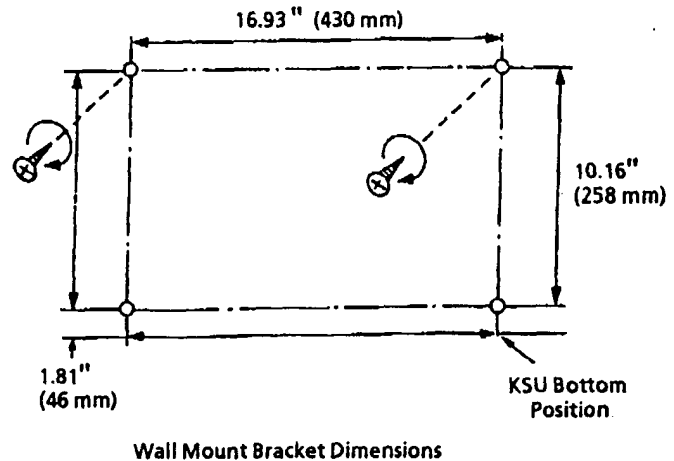

Figure 1-9 Attaching the Wall Mount Bracket for the KSU to the Wall
1. Using two of the four screws (provided with the KSU), attach the wall mount template to the wall. (Refer to Figure 1-9 - Attaching the Wall Mount Bracket for the KSU to the Wall.)